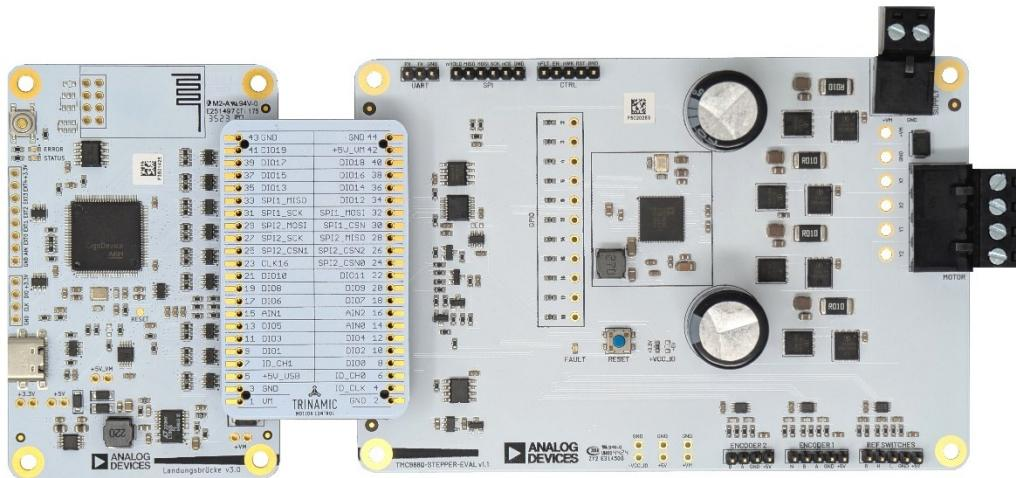

Figure 1. Assembled TMC9660-STP-EVKIT
1. Interface the TMC9660-STP-EVAL with the Landungsbruecke through the Eselsbruecke bridge board, as shown in Figure 1. While connecting the boards together, both the Landungsbruecke and the TMC9660-STP-EVAL must be unpowered. Make sure that every pin in the connector is connected to its corresponding header. The working area is nonconductive to prevent shorting of pins on the backside of the boards.